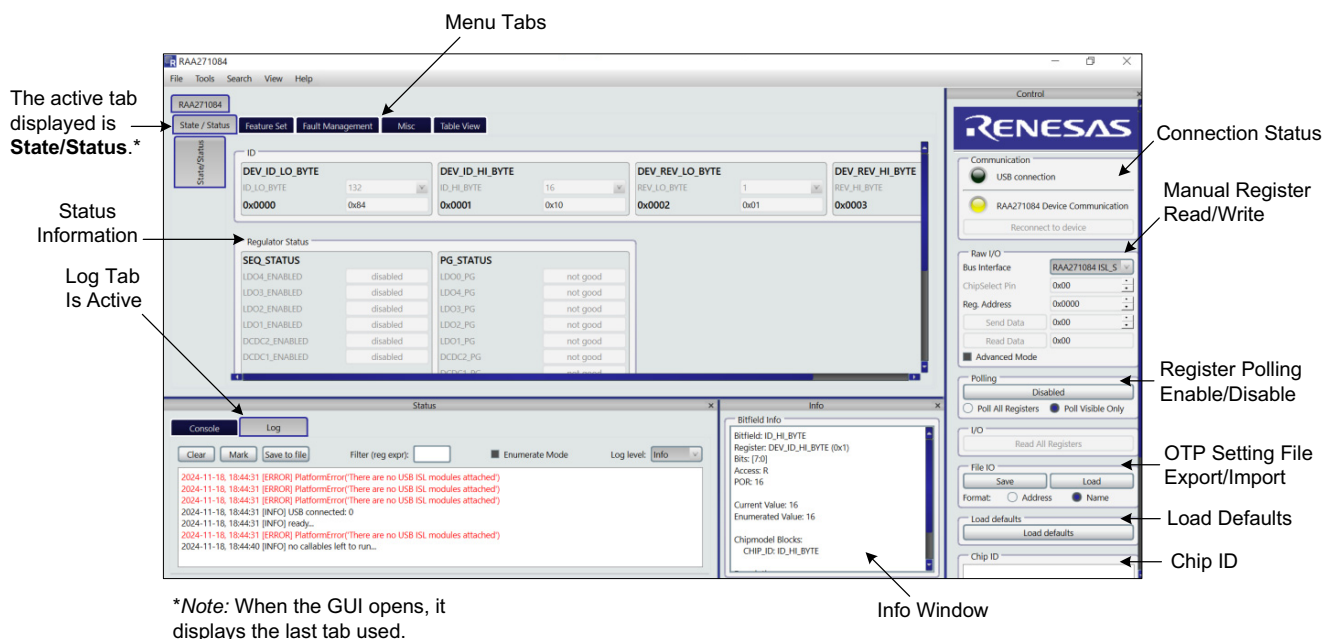

Figure 4. State/Status Tab with Labels
When powered up, the GUI appears as shown in Figure 4.
The GUI functions are grouped into rows or columns. Figure 4 displays the **State/Status** tab, which is detailed in this section along with other tabs such as the **Feature Set**, **Fault Management**, **Misc**, and **Table View**.
In the center of Figure 4, the **Status Information** label points to data that is grouped into rows.
- **Info** window – This row describes information (see Figure 4).
When powered up, the GUI should initially appear as in Figure 4. When the IC is enabled and connected with a USB, the GUI automatically detects the EVB.